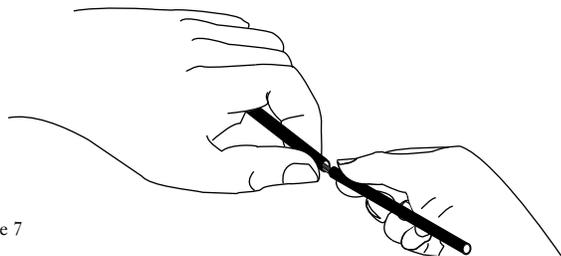

Figure 7
- d) Carefully flex the jacketed tube to break it at the score point. The break should be clean and free of rough edges (Figure 7).